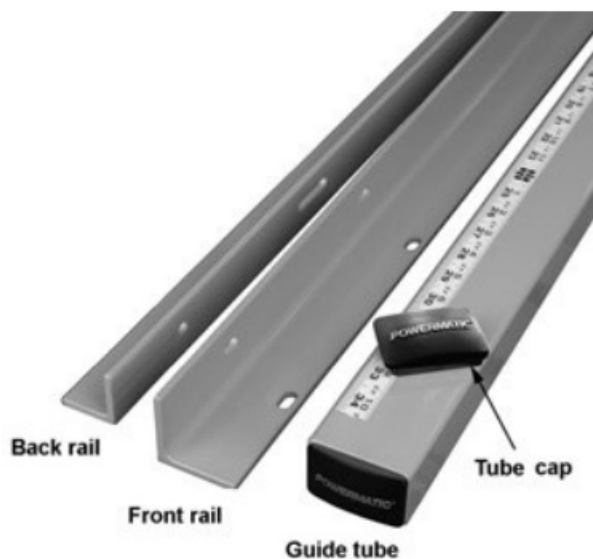

Figure 1: Contents of Box #2
- (1) Warranty card
**Box Two:** (refer to Figures 1 and 2)